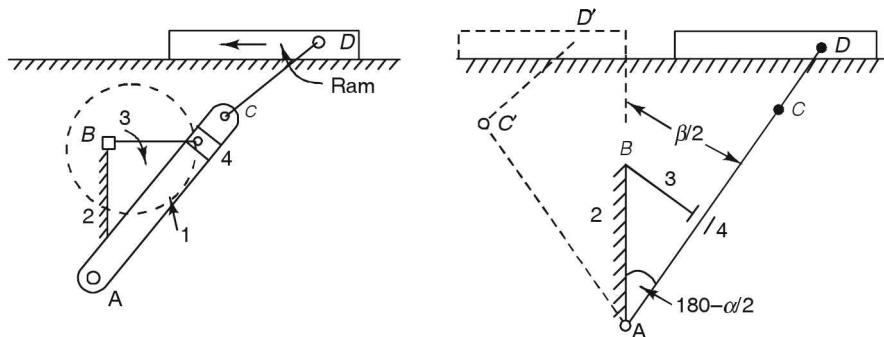

FIGURE 7.22 Quick-return mechanism.
- (b) *Quick-return mechanism*: In this inversion of a slider-crank chain, link 2 is fixed instead of link 1 (Figure 7.22). When link 3 revolves about an axis about point B , the piston (link 4) moves along the slot in link 1, thereby slotted link AC (link 1) oscillates about point A (pivot). A short link CD transmits this motion of the link AC to the ram of the shaper machine which slides over the guides.